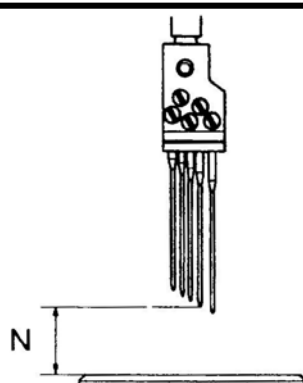
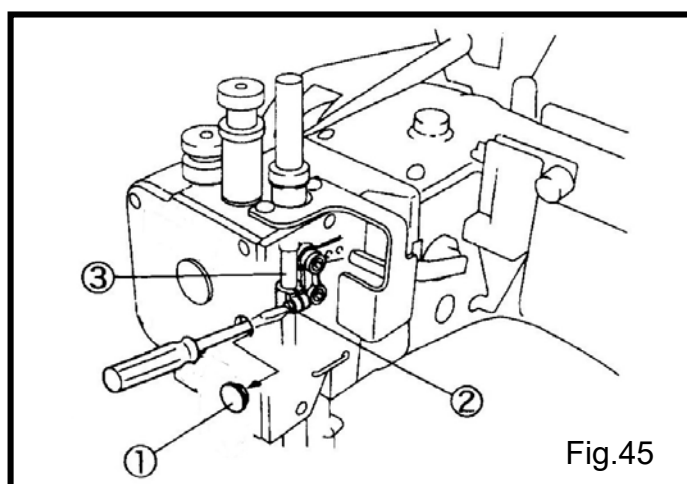
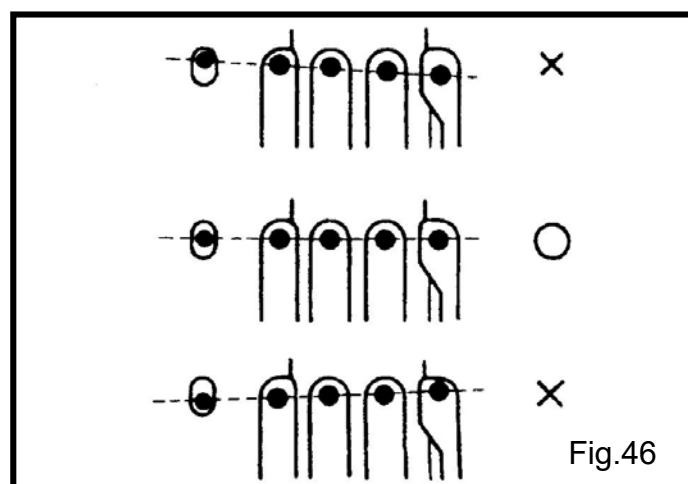

Fig.44
Fig.45
Fig.46
The moment the top cover thread is hooked with the top cover thread hook④ (Fig. 45), the thread is held at the point 0-1.0 mm apart from the top of the take-up⑤. Loosen the screws⑥ to adjust it.(Fig.44)
第四支針跟針板的距離為“N”的高度，但針距大小不同，高度就不同，如表格四所示。(Fig.44)
- (1) 移開油塞①。(Fig.45)
- (2) 鬆開螺絲②。
- (3) 上下移動針柱③去調整，針與針孔須保持平行。(Fig.46)
- (4) 鎖緊螺絲②。
- (5) 裝回油塞①。
- (1) Remove the seal plug①.(Fig.45)
- (2) Loosen the screw②.
- (3) Move the needle bar③up or down to adjust the height. Check the alignment.( Fig. 46.)
- (4) Tighten the screw② scecruely.
- (5) Reset the seal plug①.